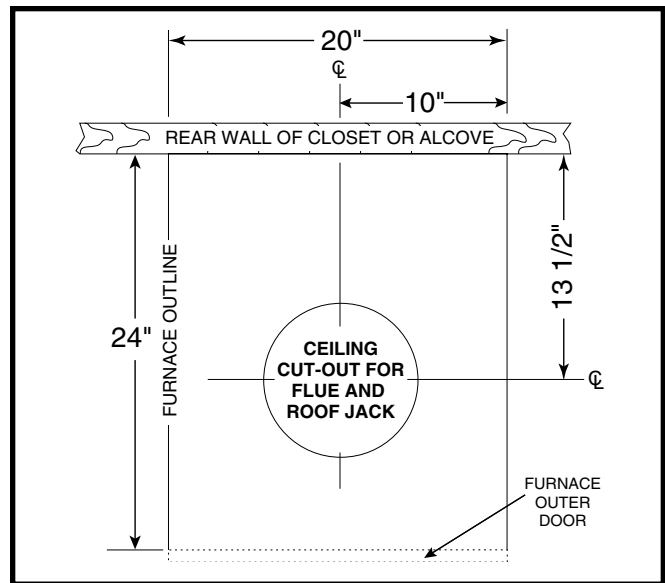

Figure 19. Cut-Out Dimensions for Flue & Roof Jack
1. Locate center of Roof Jack opening, measure 13 1/2” from the rear wall of closet or alcove along the center line of furnace and floor opening. See Figure 19.